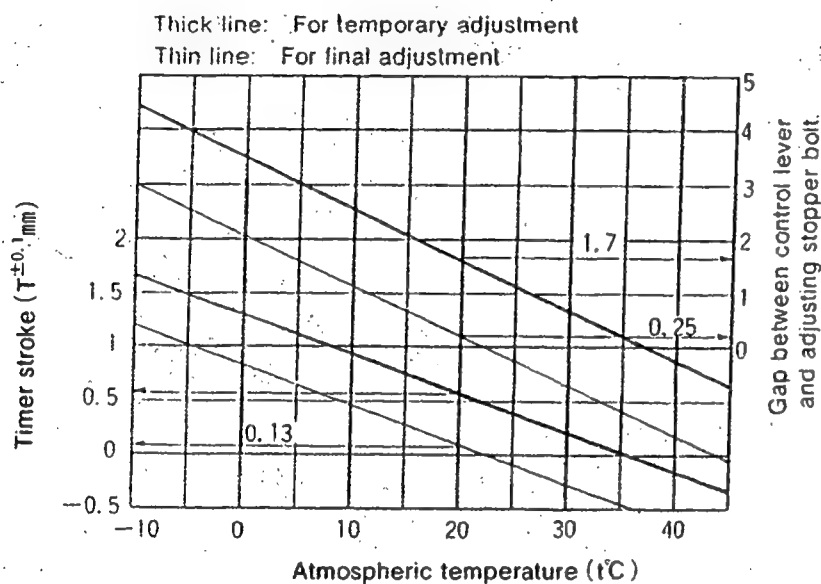

Fig. 2
1. Calculate the timer stroke from Fig. 2 according to the atmospheric temperature at the time of adjustment.
Formula for calculating Fig. 2
1. Calculate the block gauge dimension $g \pm 0.05$ mm from Fig. 2 according to the atmospheric temperature at the time of adjustment.
2. Insert the block gauge (thickness gauge) selected in Step (1) above between the bracket and the idling stopper bolt.